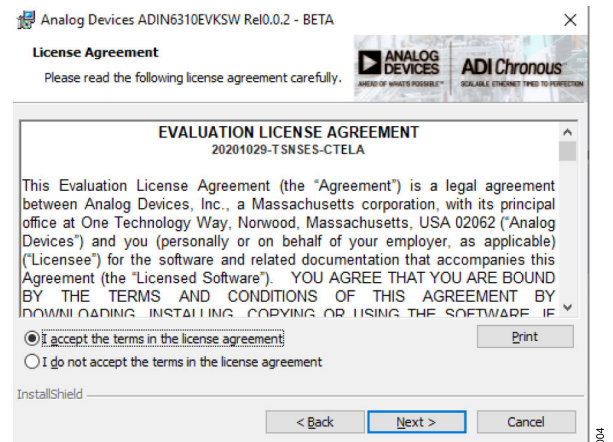

Figure 4. License Agreement
5. A license agreement appears. Read the agreement and click **I accept the terms in the license agreement** to allow the installation to proceed, as shown in Figure 4, click **Next**.